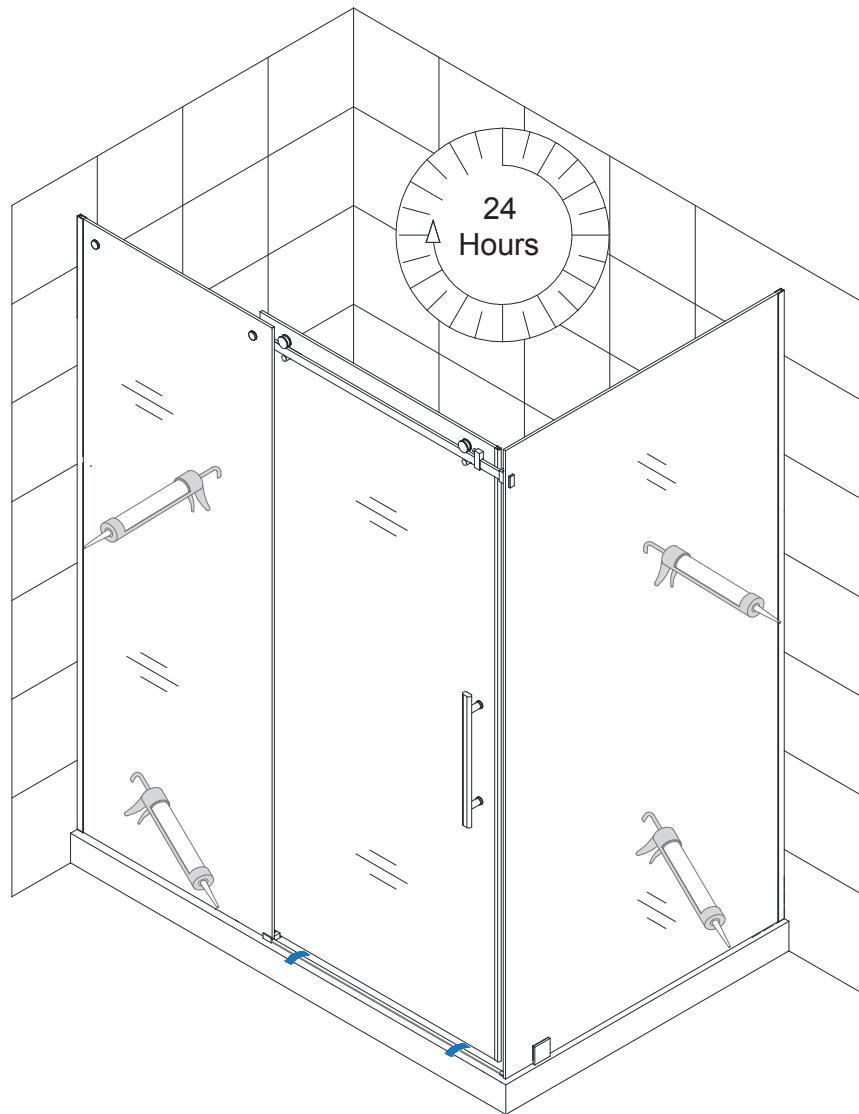

Fig 37
37. Apply a good quality mildew-resistant silicone along the connection of the stationary glass with the walls and the threshold. **(Fig 37)**